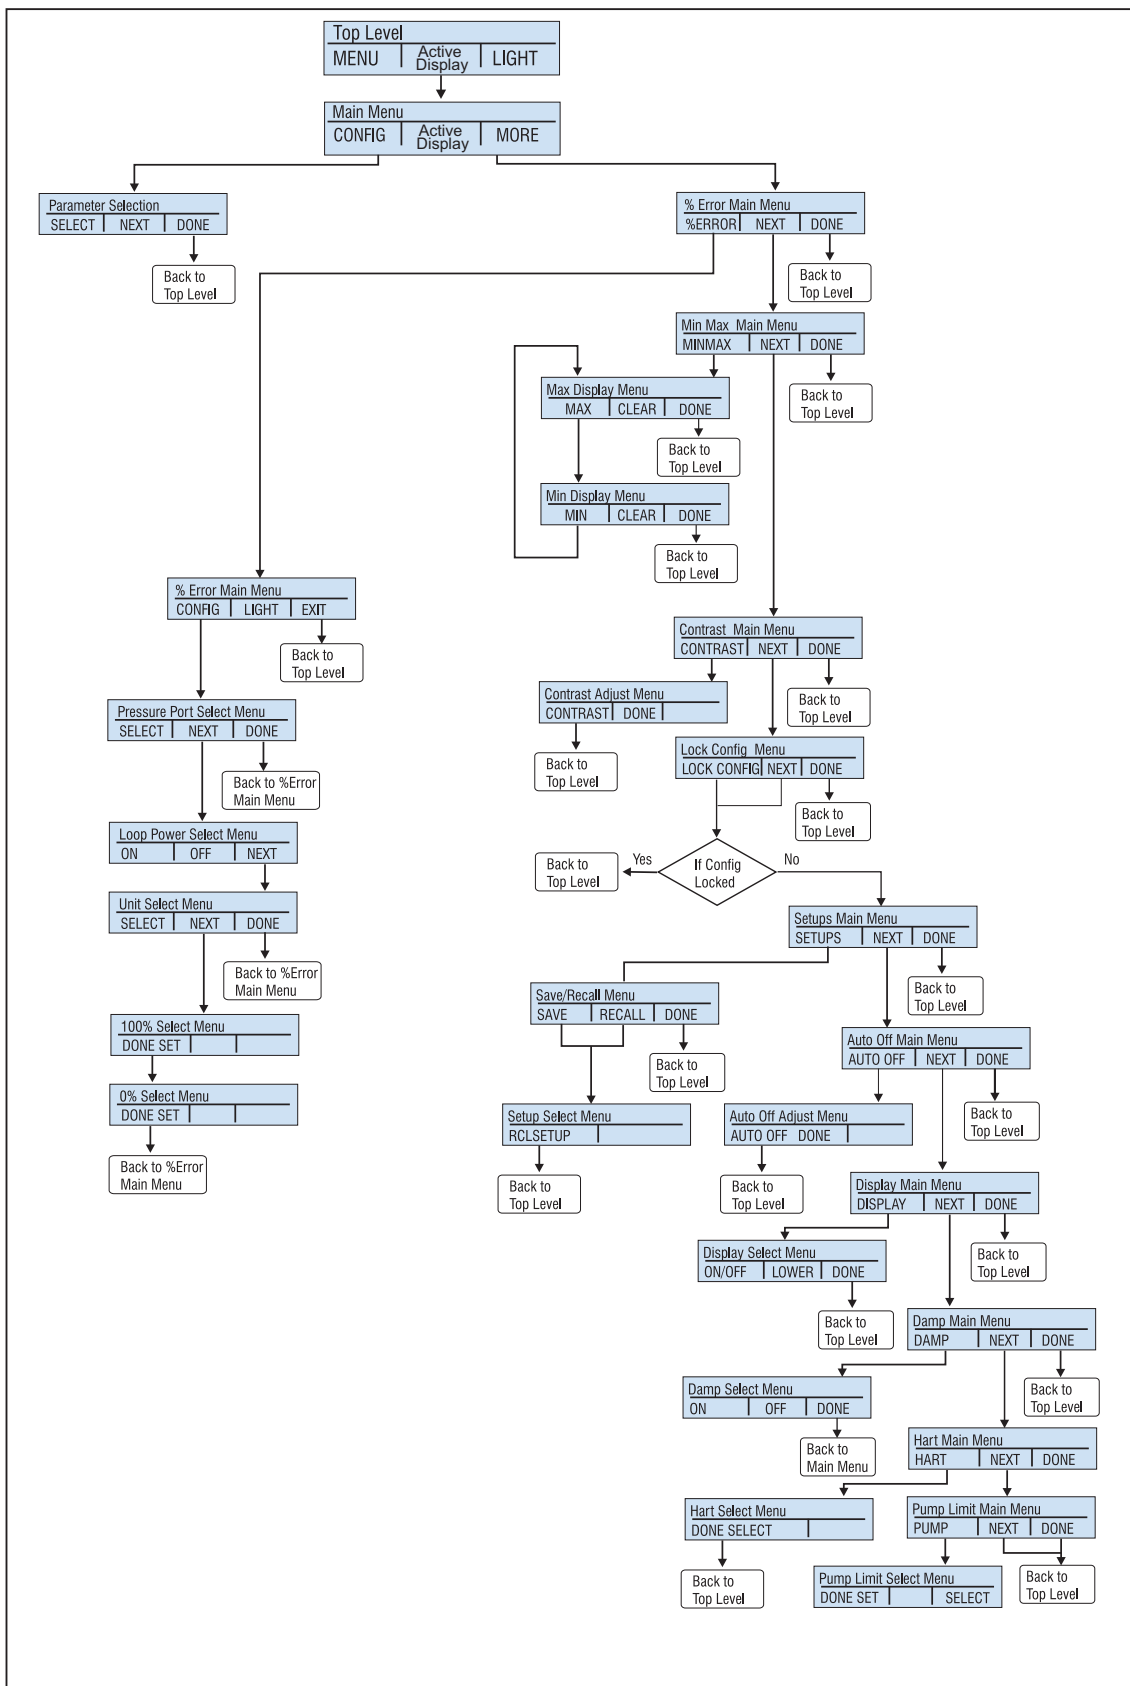

Figure 7. Menu Map
The menu bar at the bottom of the display is controlled with the softkeys or arrow keys, this depends on which menu is in use. Use the menu bar to navigate the Product menus. The menus are explained in the subsequent sections. A menu map is shown in Figure 7.
The main menu is shown in Figure 7 and has three levels.
- **CONFIG** (Configuration) - Push **F1** to access the config menu. Push **F1** again to go to the Display Configuration menu. This will let you change the parameters for each display section. See the Parameter Selection portion of the Figure 7.
There are many submenus below the main menu. These can be accessed through the **MORE** option of the main menu. A submenu contains three options. The first option is unique to the function. The second and third options are always the same. The **NEXT** option leads to the subsequent menu. The **DONE** option goes home. For the last menu, the **NEXT** option goes home. See Figure 7 for the menu structure.